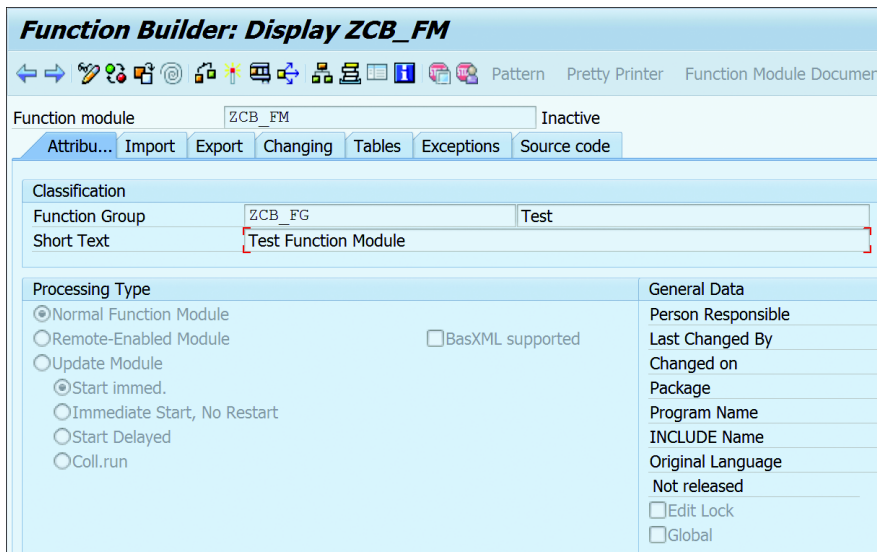

Figure 7.16 Attributes Tab
- ▶ **ATTRIBUTES:** The most important setting in the ATTRIBUTES tab is PROCESSING TYPE. Here, you can choose to create a NORMAL FUNCTION MODULE, a REMOTE-ENABLED MODULE, or an UPDATE MODULE. By default, the NORMAL FUNCTION MODULE is selected (as shown in Figure 7.16).